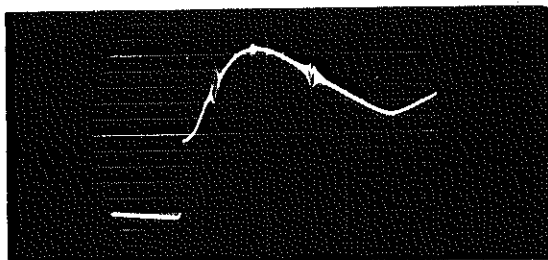
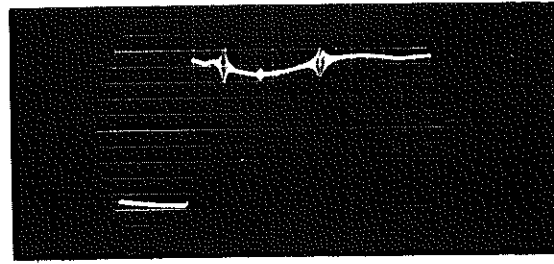
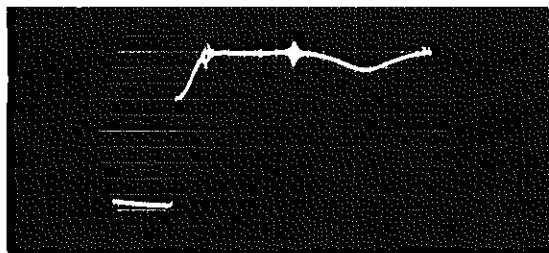

Fig. 43 Visual Amplifier: Sweep Detector No. 1, Correct Bandpass Before VSB Filter, But Too Little Coupling
Fig. 44 Visual Amplifier: Sweep Detector No. 1, Correct Bandpass Before VSB Filter, But Too Much Coupling
Fig. 45 Visual Amplifier: Sweep Detector No. 1, Correct Bandpass Before VSB Filter, Lower Marker 0.75 MC Below and Upper Marker 4.2 MC Above Carrier
d. Adjust the LOAD switch 8S28 to obtain a response similar to that shown in Fig. 43, 44, or 45. The correct bandpass is shown in Fig. 45. If the bandpass is too narrow, as shown in Fig. 43, or too wide, as shown in Fig. 44, the coupling must be adjusted. To do this, remove the shield covers on the output circuit on each side of the coupling loop. Then, using the box-end ratchet wrench supplied with this equipment, loosen the 1/4-20 hex-head bolts connecting the coupling loop to the output circuit. If the bandpass is found to be too narrow, the coupling loop should be